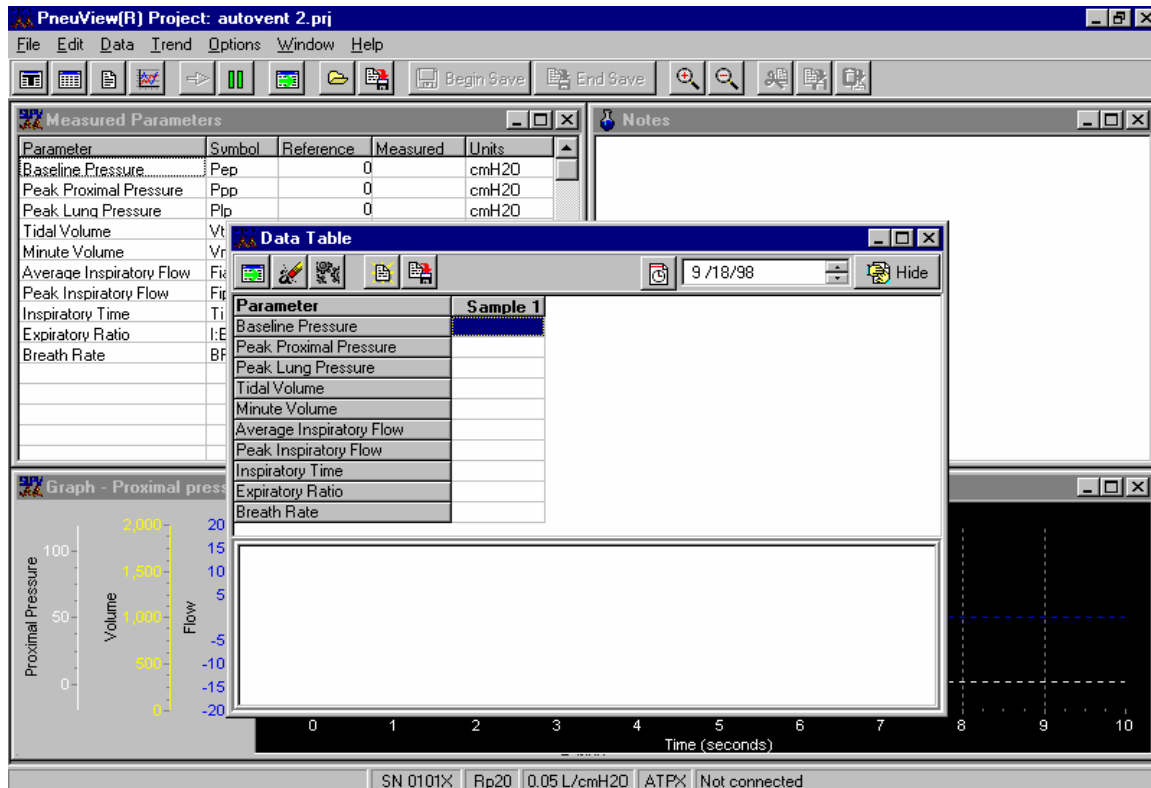

Figure 16 – Data Table Window
2. Check the parameters to be measured with the left mouse button. The parameters can also be selected by pressing the space bar on the keyboard. To clear all of the parameters select the *Clear All* button. To select all of the parameters choose the *Select All* button. When OK is selected, a *Data Table* window appears. See Figure 16 for display of the *Data Table* window.